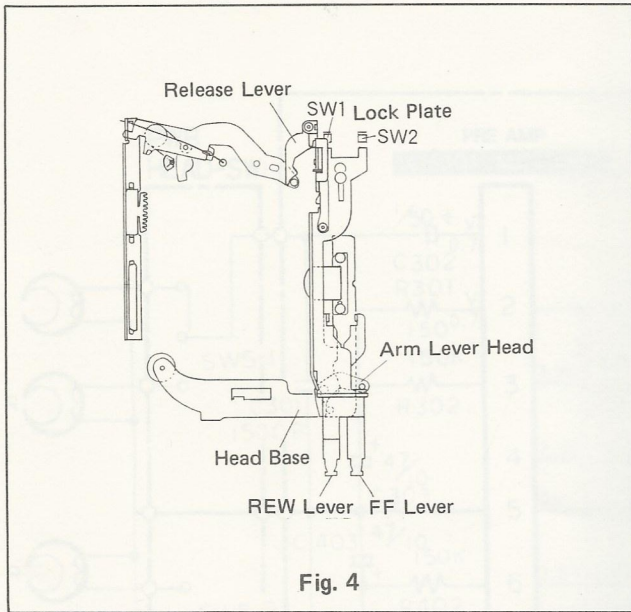

Fig. 4
3. FF/REW MECHANISM (Ref. Fig. 4)
- 3 - (1) Push either FF or REW button so that the head-base will move backward and lock.